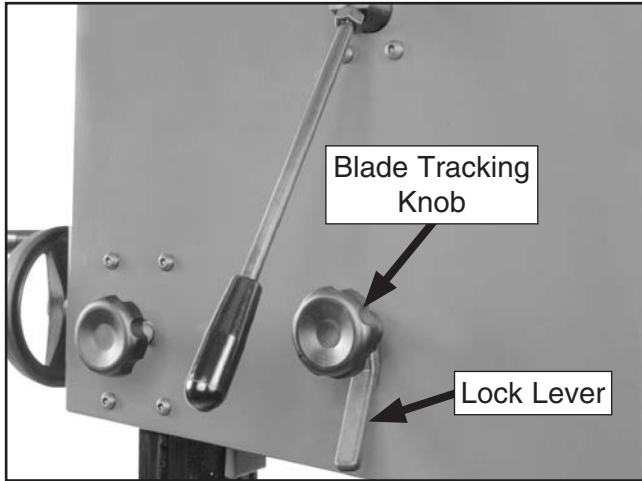

Figure 36. Blade tracking controls.
- Loosen the lock lever on the back of the bandsaw (see **Figure 36**) so that the blade tracking knob can rotate.